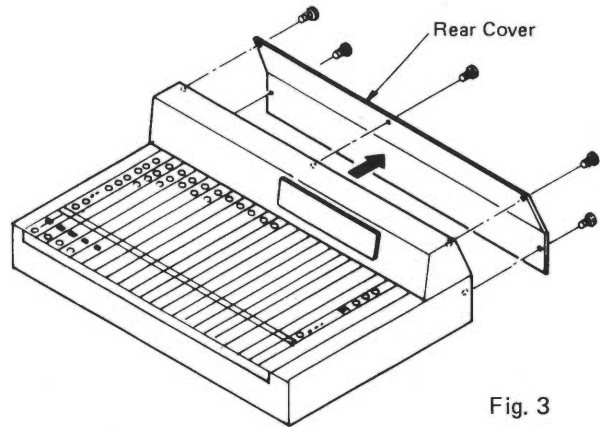

Fig. 3
- For checking and repairing the Peak LED, remove the rear cover by removing the five screws. (Fig. 3)